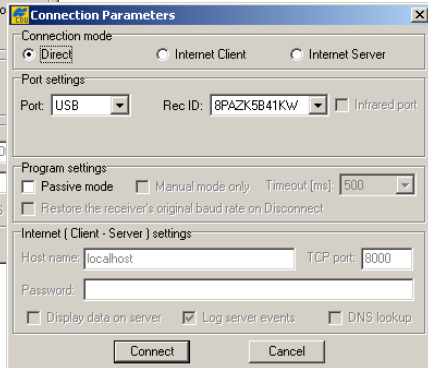

Figure 3-5. Connection Parameters
4. On the **Connection Parameters** dialog box, select the following parameters (Table 3-3) and click **Connect** (Figure 3-5).